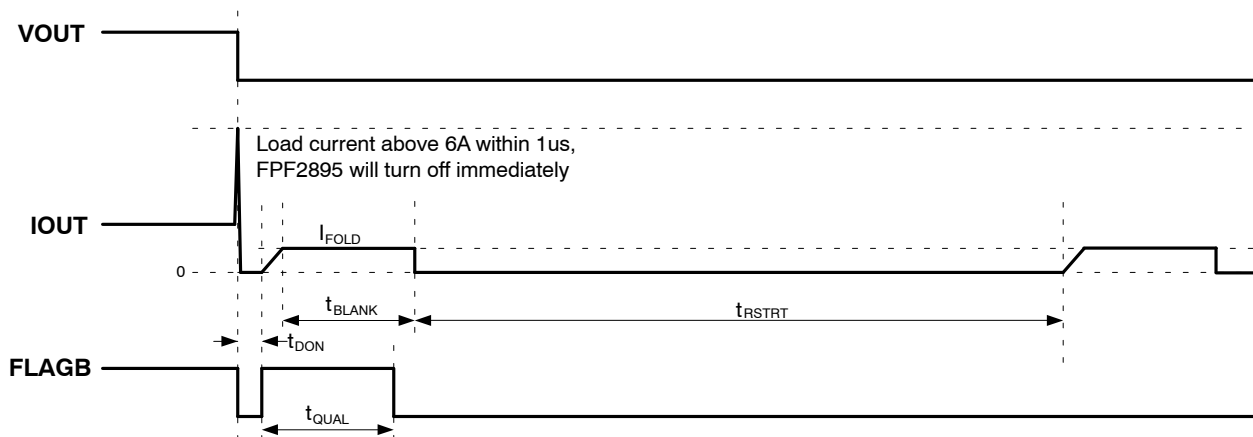

Figure 9. VOUT Hard Short to GND (OC\_MODE=HIGH & FLAGB Is Pulled Up With an External VIO)
6. 6 A absolute limit current value. See Figure 9. for protection timing diagram.